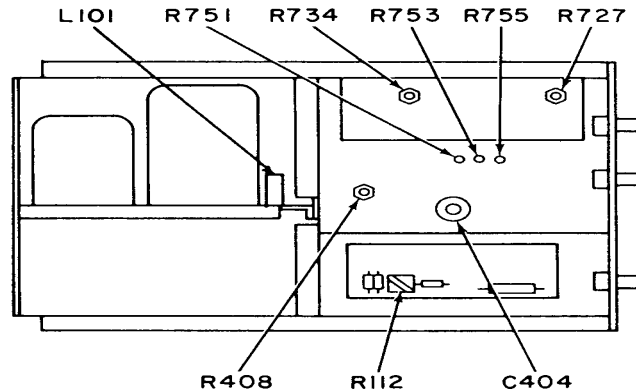

Figure 2. Oscilloscope-bottom view.
(1) Set HORIZ MODE switch to X1 and adjust horizontal POSITION control to center spot on crt graticule.
(2) Connect voltmeter (A5) to HORIZ INPUT, using cable (B6). If voltmeter does not indicate 0.0 V dc, perform **b** below.
(3) Set HORIZ MODE switch to X2 and observe that voltmeter indicates 0.0 V dc.
(4) Set HORIZ MODE switch to X5 and observe that voltmeter indicates 0.0 V dc.
b. Adjustments. Adjust R408 (fig. 2) until voltmeter indicates 0.0 V dc.
(1) Adjust C404 (fig. 2) for minimum overshoot and/or rounding of square-wave display
(1) Adjust oscilloscope calibrator (voltage calibrator) output to 0.5 V (p-p).
(2) Turn R727 (fig. 2) ccw until waveform disappears, then turn slowly cw until sweep trigger and remains stable.
(2) Adjust R734 (fig. 2) until sweep length is 10.5 divisions.
(1) Set TIME/DIV switch to .1 MILLISEC.
(2) Set oscilloscope calibrator (A3) TIME/DIV switch to .1 mS and TRIGGER PULSE PERIOD switch to 100 μ S. (For AN/GSM-256, set to .1 mS time-markers and .1 mS triggers.)
(3) Adjust horizontal POSITION control to align second time-marker on second vertical graticule line.
(4) Adjust oscilloscope calibrator TIME/DIV variable control to align one time-marker for each vertical graticule between second and 10th lines. If oscilloscope calibrator does not indicate .1 mS within ± 3 percent (for AN/GSM-256, if 10th time-marker is not aligned with 10th vertical graticule line or there is not a time-marker within ± 1.5 minor divisions of each vertical graticule between second and 10th lines), perform **b** below.
(5) Repeat technique of (1) through (4) above for oscilloscope calibrator output and TIME/DIV switch setting listed in table 4. At each setting, if oscilloscope calibrator does not indicate within ± 3 percent, perform appropriate adjustments listed in table 4. (For AN/GSM-256, at each setting, adjust horizontal POSITION control to align second time-marker (1/div) or third time-marker (2/div) with second vertical graticule line. At each setting, if either 10th (1/div) or 19th (2/div) time-marker is not within ± 1.5 minor divisions of each vertical graticule between second and 10th lines, perform appropriate adjustments listed in table 4.)
b. Adjustments. Set oscilloscope calibrator for .1 ms and adjust R755 (fig. 2) for one time marker per division between second and 10th vertical graticule line (R).